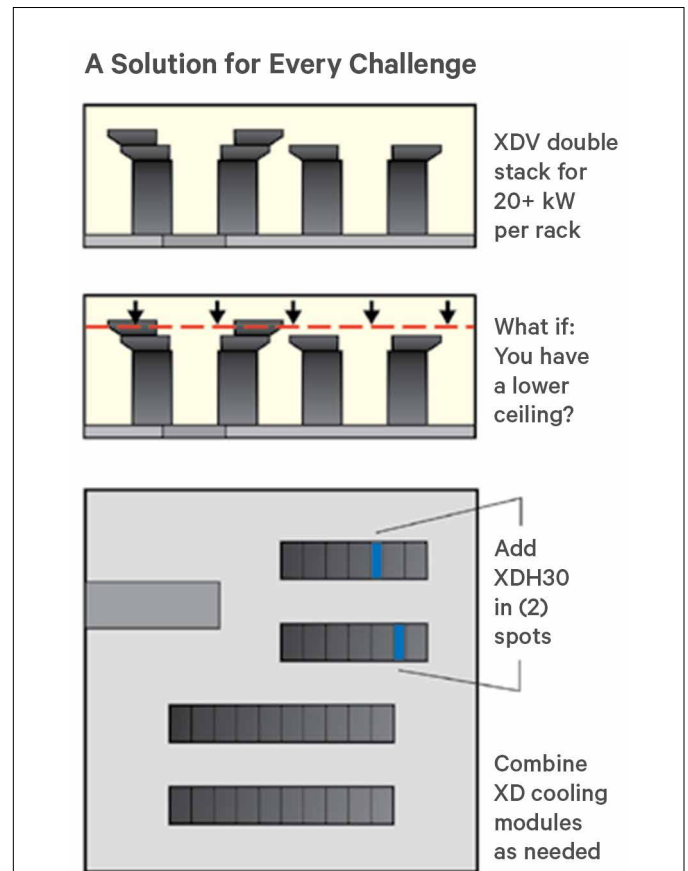

Figure 15: Adapting to ceiling height.
3. Figure 15 shows the elevation view with the double-stacked Liebert XDV solving 20 kW or more per rack. But what if the ceiling is too low to double-stack the modules? That problem is solved by keeping the single Liebert XDV modules, and adding a few Liebert XDH cooling modules between racks to pick up the added heat from those 20 kW heat load racks.